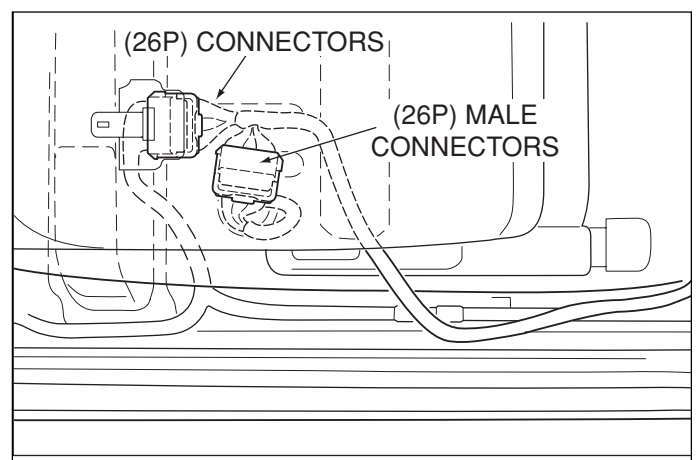

Fig. E5
- ➔ i. Attach the insulator block to the under side of the converter (26P) wire harness male connector (B). (Fig. E5)
- ➔ ii. Connect the converter (26P) connectors between the 2 vehicle side (26P) connectors as shown. (Fig. E5)
- ➔ iii. Route the (26P) connector wire harness along the vehicle's wire harness. (Fig. E5)
- ➔ iv. Secure the (26P) wire harness male connector (B) to the floor of the cab as shown. (Fig. E5)